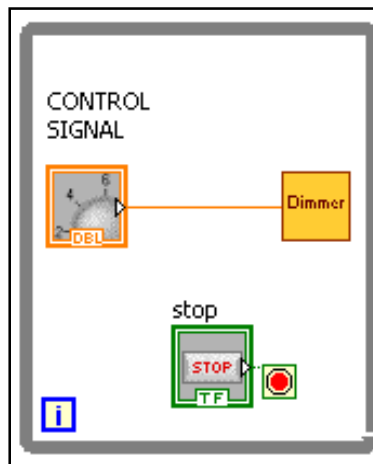

Figure B2.
3. Reduce the VI to a subVI . Then **[Double-CLICK]** on the subVI to edit the icon as was done in Appendix A. (see Figure B2.)